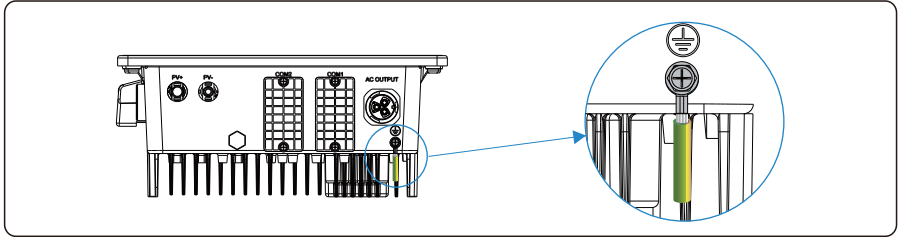

Figure 5.4 Secure the PGND cable
Step 4 Secure the PGND cable (done by step 1 & 2) using the ground screw and tighten the screw using a socket wrench (torque 1.2 N·m), as shown in Figure 5.4.